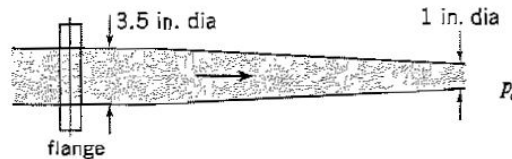

Figure P4.20
4.20 Neglecting friction, find the axial force produced at the flange when water discharges at at 200 *gpm* into atmospheric pressure from the circular nozzle shown in Figure P4.20.